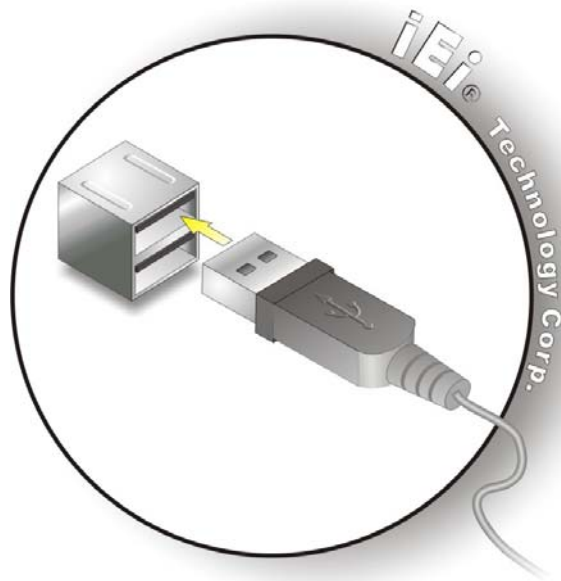

Figure 5-22: USB Device Connection
Step 2: Align the connectors. Align the USB device connector with one of the connectors on the IMB-Q354. See **Figure 5-22**.